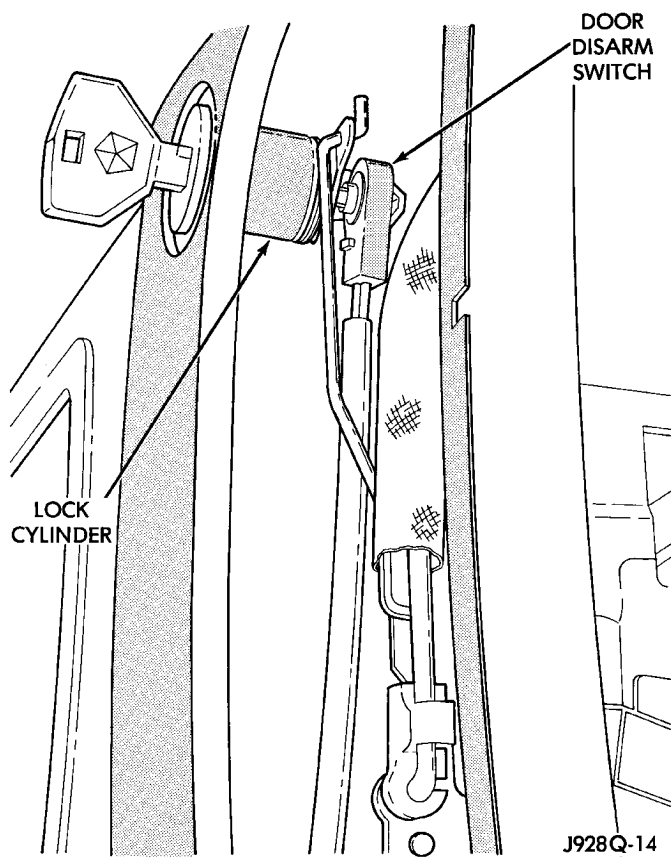

Fig. 5 Door Lock Cylinder Switch Remove/Install - Typical
(12) Pull the lock cylinder out of its mounting hole from the outside of the door panel far enough to pry the lock cylinder switch off of the back of the lock cylinder (Fig. 5).